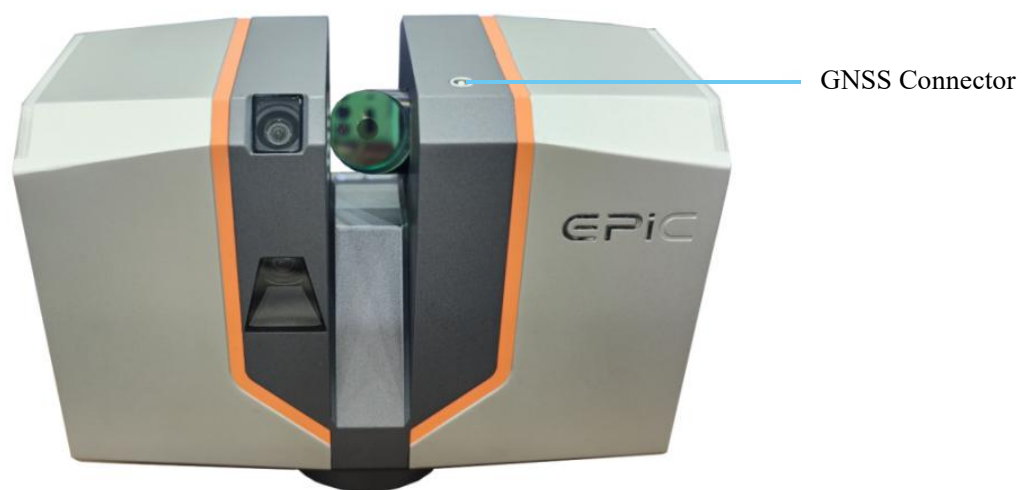

Figure 3-10 GNSS Antenna Connector
- 4) The GNSS antenna connector is located on the top of Scanner and is used to connect the GNSS antenna for positioning and georeferencing functions, as shown in Figure 3-10.